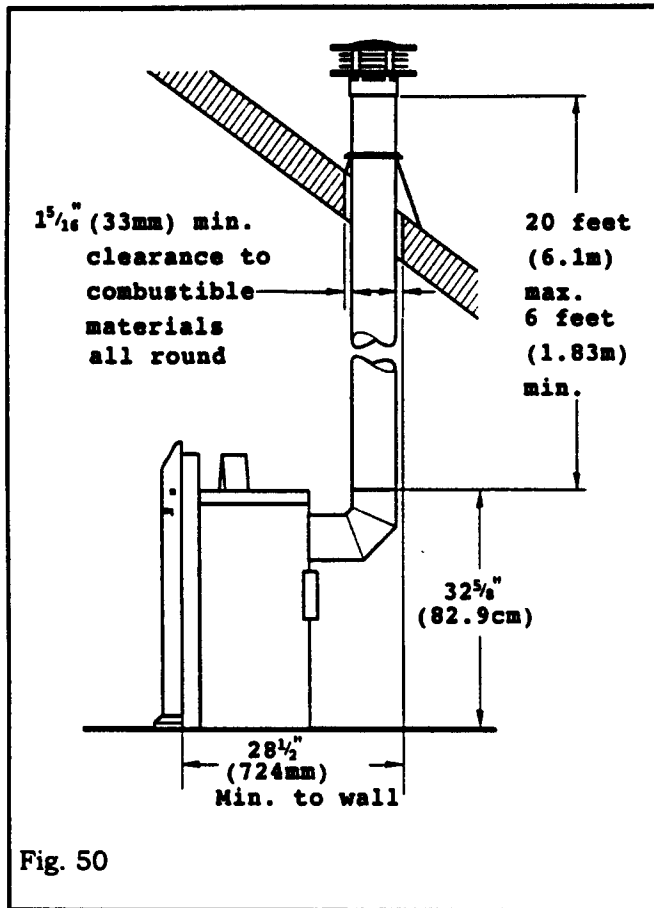

Fig. 50
Vertical vent rise with through the roof termination (Fig. 50)
10.11 Cut a hole in the roof centered on the small hole. The hole must allow for the minimum clearances to combustible materials - see fig 50